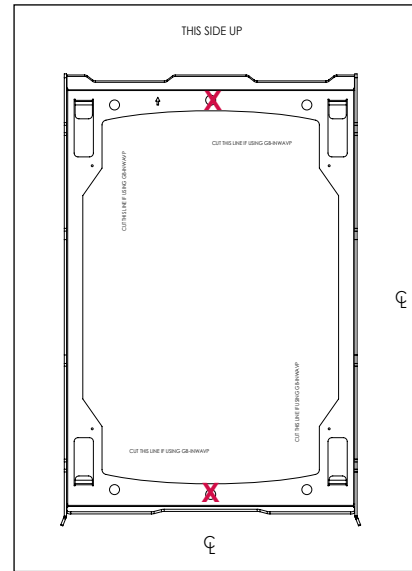

Figure 1
- 1 Cut or punch out the top and bottom middle screw holes on the paper template (marked “X”) (Figure 1).